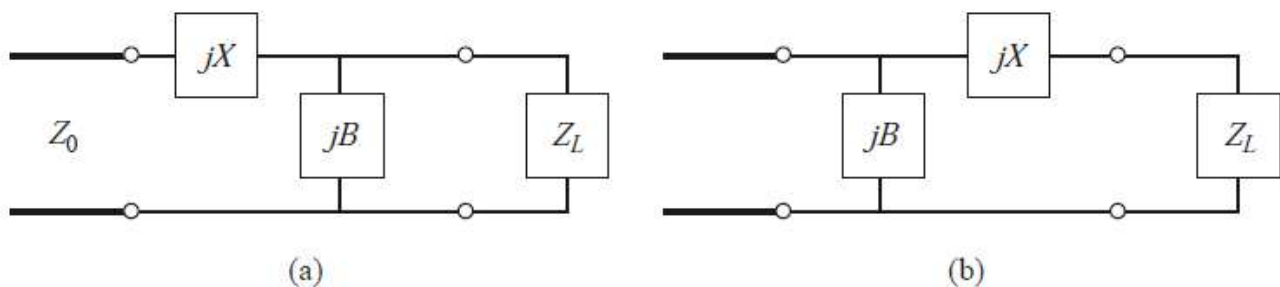

Figure 2
- In either of the configurations of Figure 2, the reactive elements may be either inductors or capacitors, depending on the load impedance.